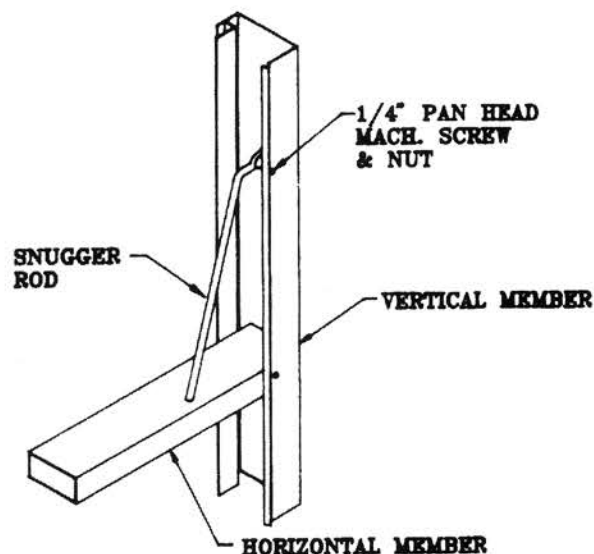

Figure 15
Insert snugger rod into the hole in the horizontal door member. Secure opposite end of the snugger rod to the vertical member using one (1) 1/4" fastener and nut as shown Figure 15.